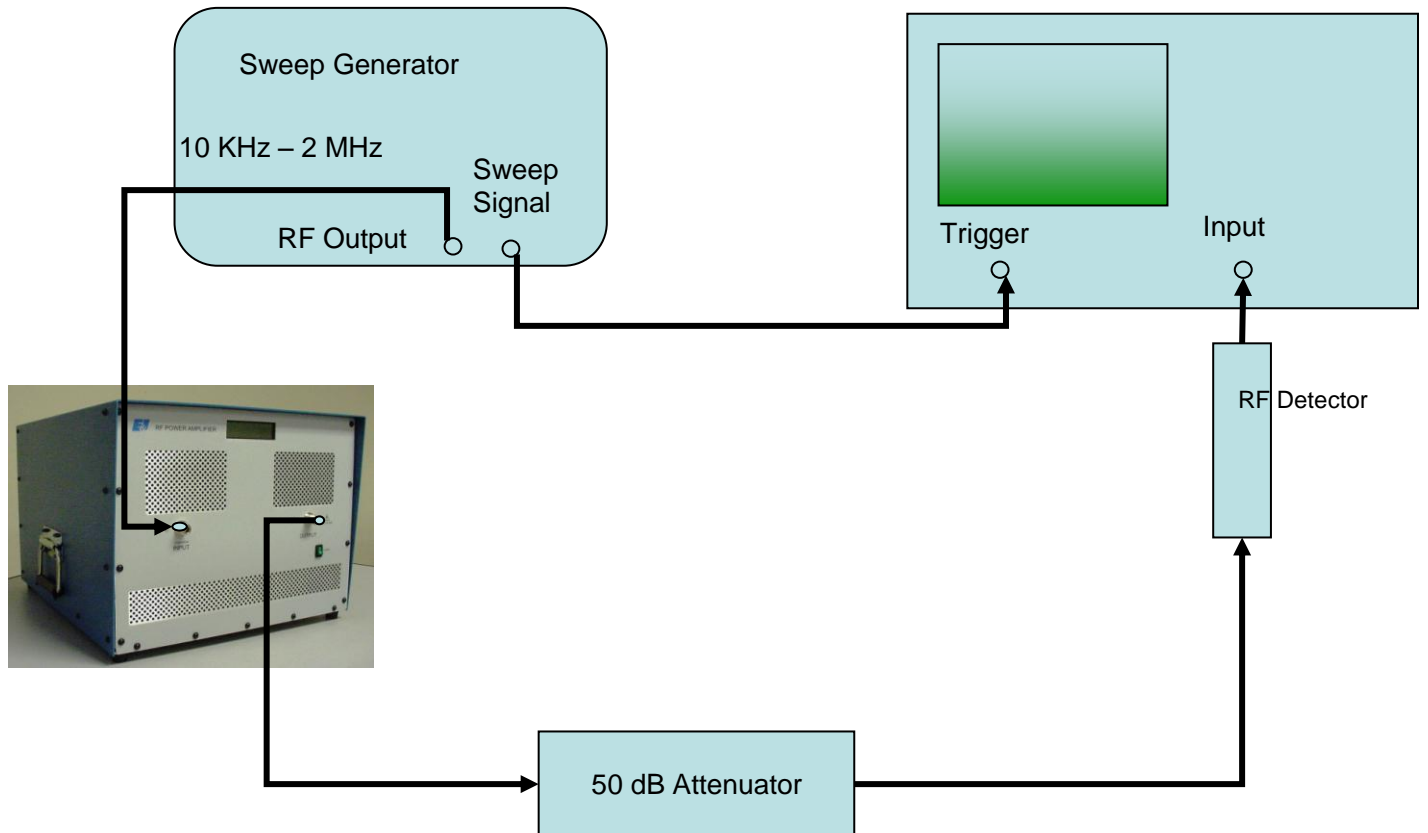

Figure 4-1. Gain Measurement
2. Connect the equipment as shown in Figure 4-1, then proceed as follows:
- g) Reconnect the 1140LA into the test set-up of Figure 4-1.